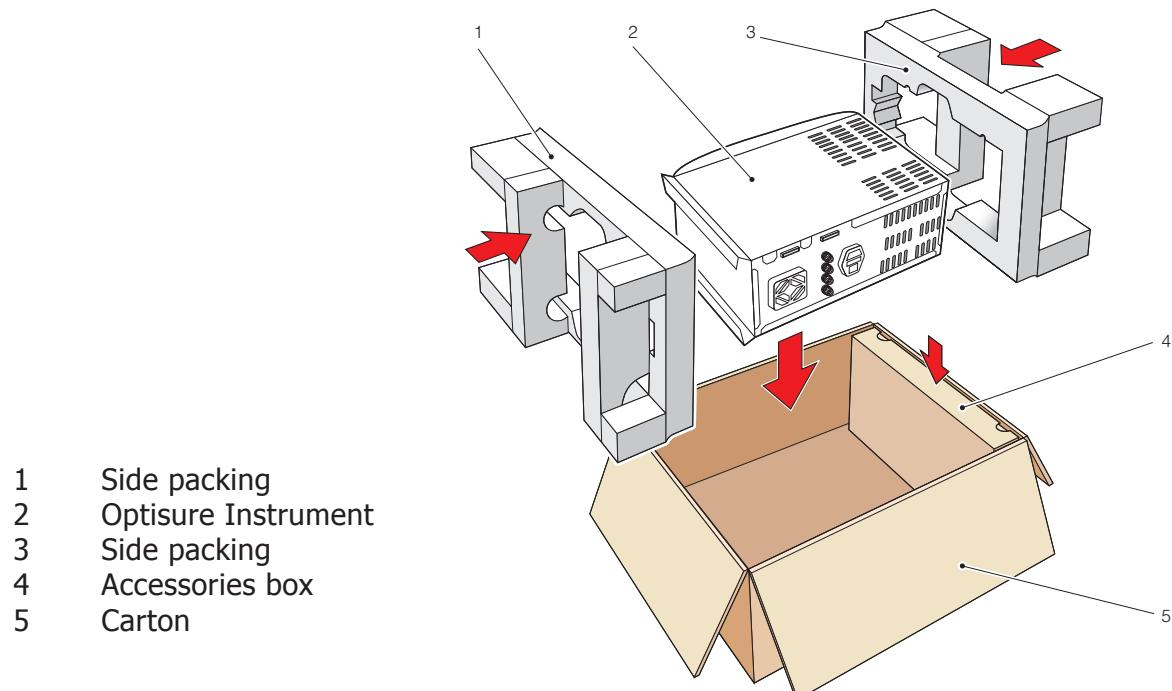

Figure 42      *Instrument Packing Details*
8. Pack the instrument in its original case as shown in *Figure 42*. **NOTE: The accessories should be packed in the box (4). Unless returning for repair, it is not necessary to return either the microscope or the analog and alarm connectors. All cables and the remote PRT probe (if supplied) should be returned for checking.**